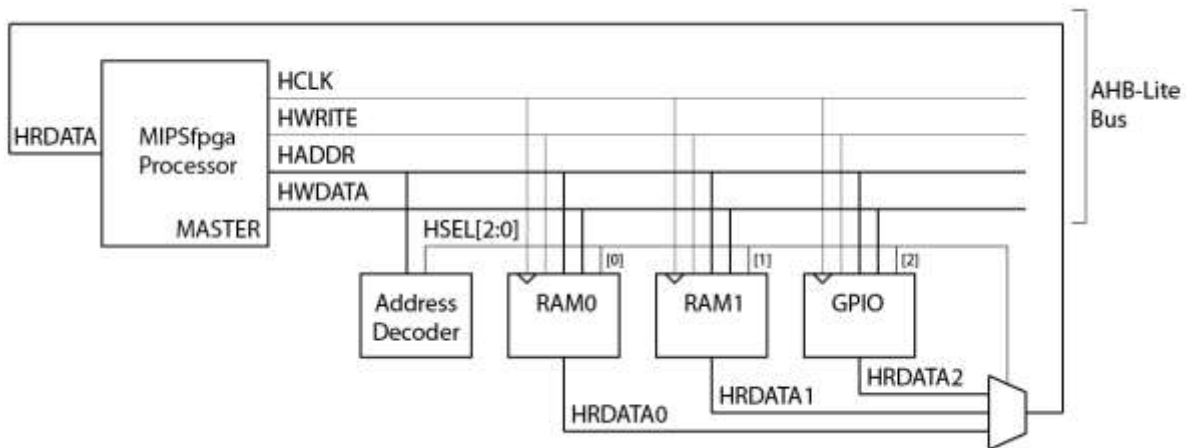

Figure 30. AHB-Lite bus
Figure 30 shows the AHB-Lite Bus on the MIPSfpga processor. This configuration has one master, the MIPSfpga processor, and three slaves: RAM0, RAM1, and GPIO, which are two RAM blocks and a module for accessing the I/O (switches and LEDs) on the FPGA boards. The processor, the master, sends the clock, write enable, address, and write data signals: HCLK, HWRITE, HADDR, and HWDATA. It receives the read data (HRDATA) from one of the slaves, depending on the address. The Address Decoder asserts the HSEL signal to select the slave device indicated by the address.
After the reset button is pushed, the MIPSfpga core sets the program counter (PC) to 0xbfc00000 and begins executing. As stated in Section 4.1, virtual address 0xbfc00000 maps to physical address 0x1fc00000. The reset RAM, RAM0 from Figure 30, holds memory starting at that address. The code from Figure 33 is pre-loaded into RAM0 (ahb_ram_reset.v). The ahb_ram_reset module loads the instructions listed in the ram_reset_init.txt file (shown in Figure 34) into its memory. This file can be found in the MIPSfpga\rtl_up directory. The memory values (instructions) are placed starting at the lowest memory address: 0xbfc00000. So, the first instruction (0x24090001) is located at memory address 0xbfc00000, the second instruction at 0xbfc00004, etc.